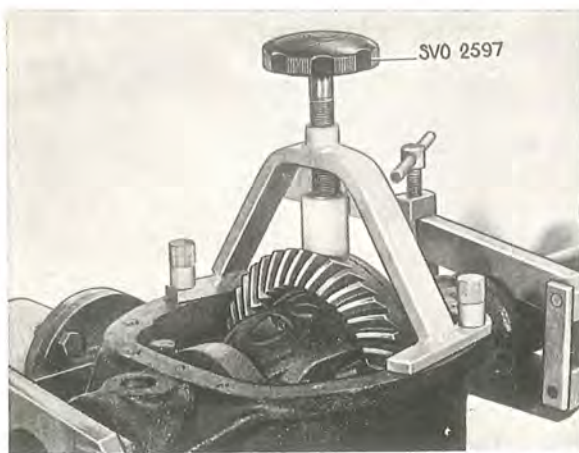
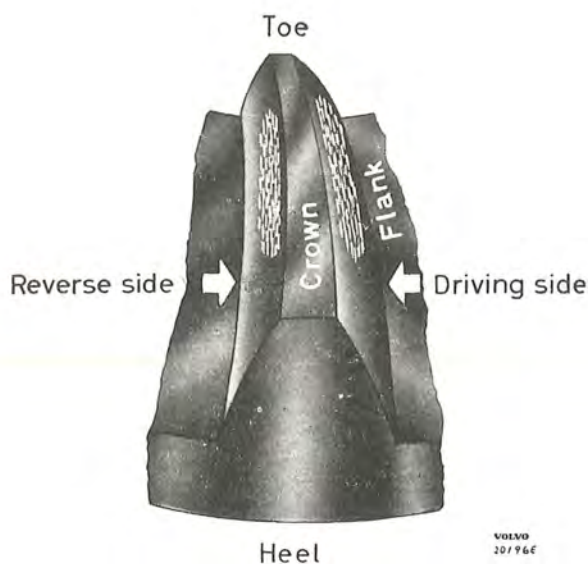

Fig. 4-95. Brake tool for differential
Fig. 4-96. Correct tooth contact
2. Fit on brake tool SVO 2597 as shown in Fig. 4-95. Apply marking blue to several teeth at three points on the crown wheel. This can serve as a check on the crown wheel for possible warping. Rotate the pinion 10—12 turns in both directions and check the mesh marking pattern. With correct tooth mesh, the mesh marking pattern should be horizontally in the middle of the tooth but somewhat nearer to the toe than the heel. The patterns on the reverse side and driving side should coincide with each other, see Fig. 4-96. If the patterns do not coincide, the pinion location must be adjusted